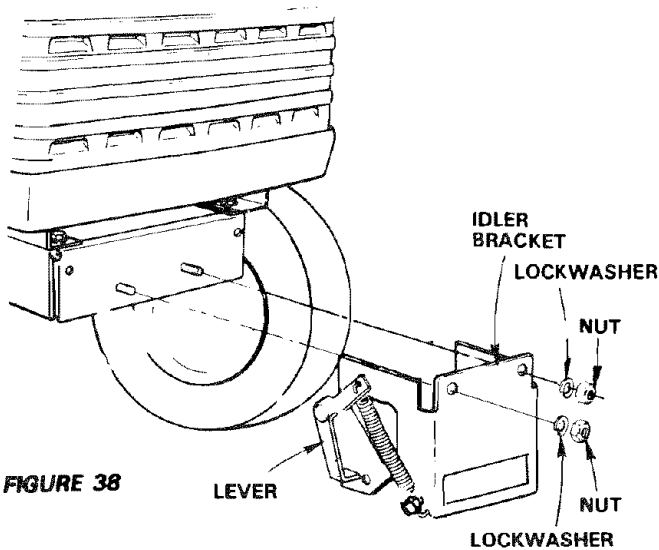

FIGURE 38
- b. Remove lockwashers and nuts from idler bracket (Fig. 38).